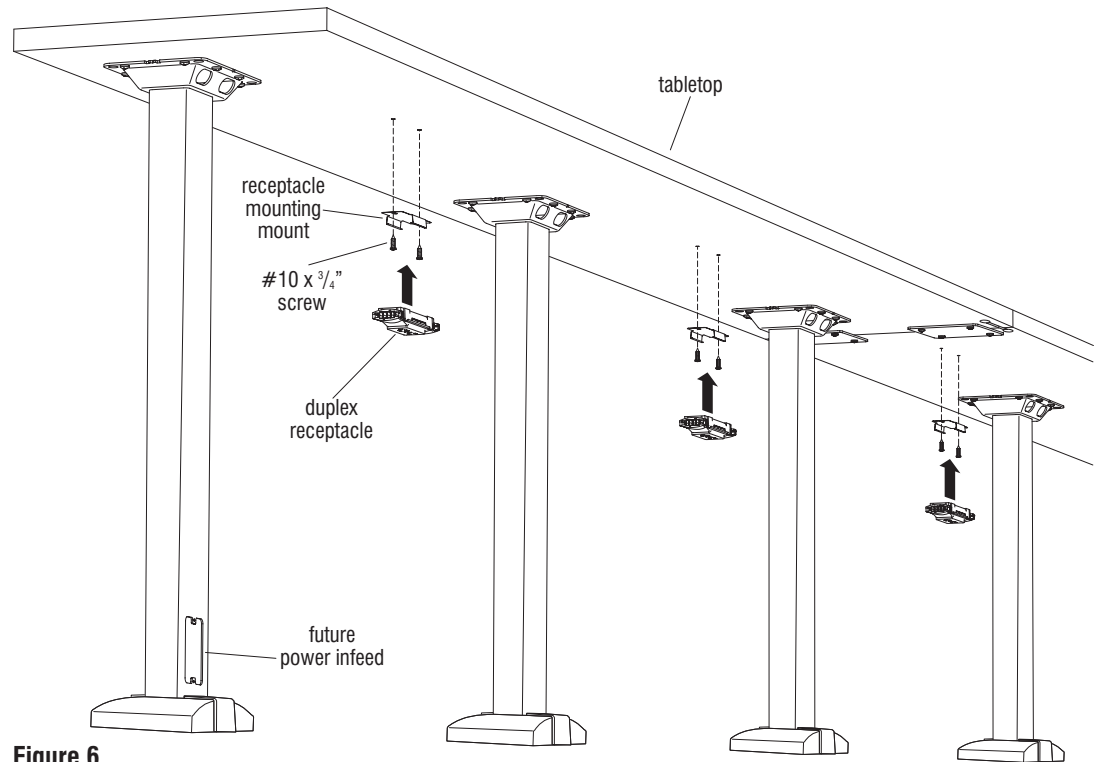

Figure 6
12. Position the receptacle mounting brackets up to the pre-drilled mounting holes as illustrated, and secure each using two #10 x 3/4" screws per bracket. Torque screws to 25 in/lb (Figure 6).
13. Reference the space-planning layout and determine where the power infeed(s) are located, and which direction the power will run on the length of tabletops before installing duplex receptacles. Position each duplex receptacle with the single ground prong oriented toward the associated power infeed. Then snap each receptacle into place on the receptacle mounting brackets (Figures 6 & 7).
14. Continue following steps 1 & 2 closely to install all remaining duplex receptacles (Figures 6 & 7).
15. Reference the space-planning layout and determine the table base location for the single-direction power infeed. Check and assure that the duplex receptacles are installed correctly (Page 8, Figures 6 & 7). The ground prongs must be oriented to the side of the associated power infeed. If below floor level power is to be run to the tabletops, the power infeed should already be in place. To install above floor level power infeed, run the exposed wires end of the power infeed through the oval cut-out in the tabletop mounting flange, down the table base column and out the lower wire access hole, then plug the connector end into the first duplex receptacle next to the power infeed (Figure 8).
20. Reference the space-planning layout and determine the table base location for the two-direction power infeed. Check and assure that the duplex receptacles are installed correctly (Page 8, Figures 6 & 7). The ground prongs must be oriented to the side of the associated power infeed. For two-sided power infeed the receptacles will be oriented in different directions on each side of the power infeed. If below floor level power is to be run to the tabletops, the power infeed should already be in place. To install above floor level power infeed, run the exposed wires end of the power infeed through the oval cut-out in the tabletop mounting flange, down the table base column and out the lower wire access hole, then plug the connector end into the first duplex receptacle next to the power infeed (Figure 10).